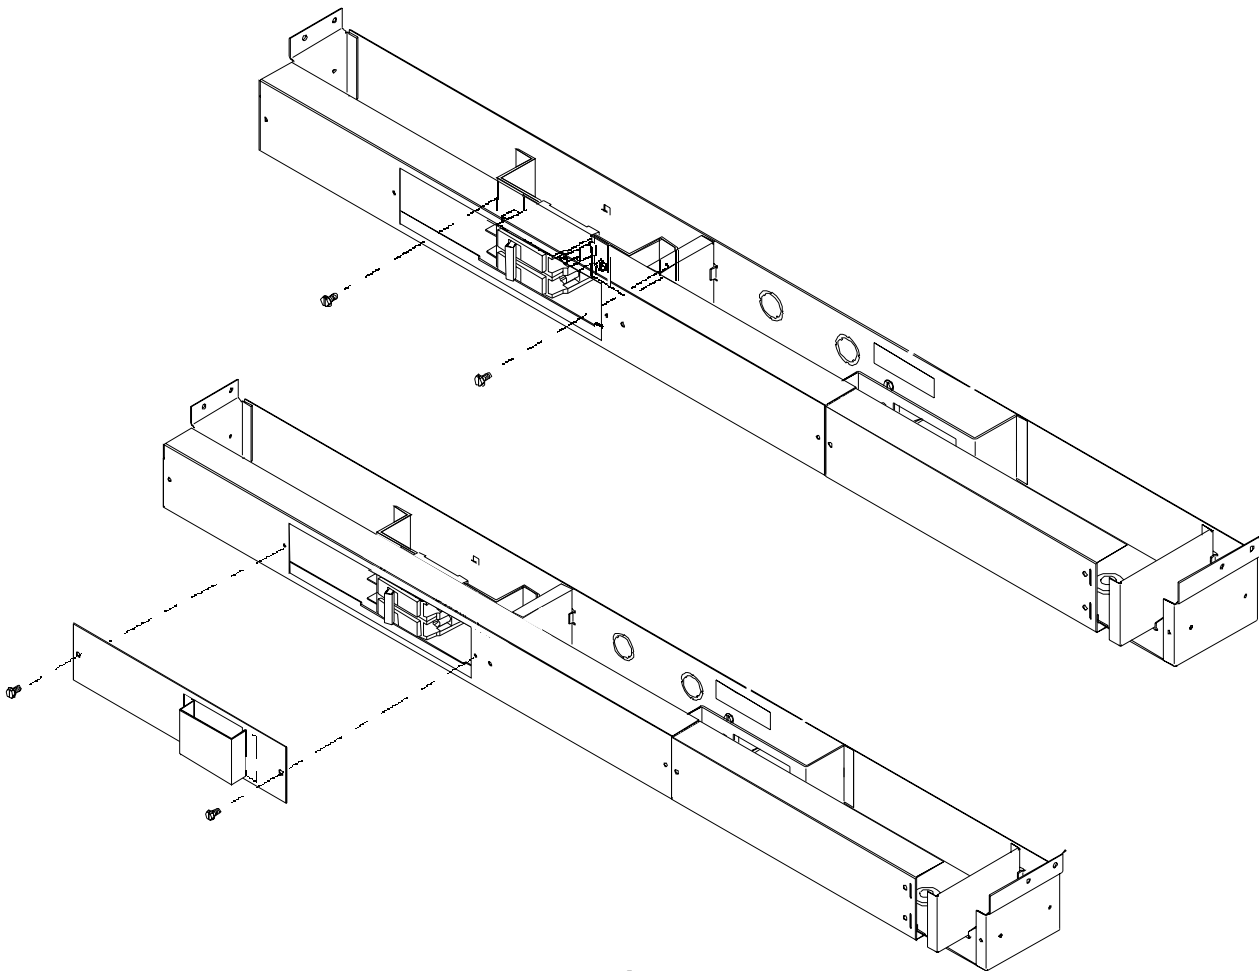

Figure 2
6. Position the entire circuit breaker assembly in the subbase as shown in Figure 2. Using the two screws provided, secure the assembly to the subbase back wall in the subbase high voltage section. The large compression connections should be on the left ("ON" to the left, "OFF" to the right).
8. Install the circuit breaker guard and the replacement access cover for the high voltage section. Install the assembly over the circuit breaker handle using the two screws removed from the original access cover (Figure 2).